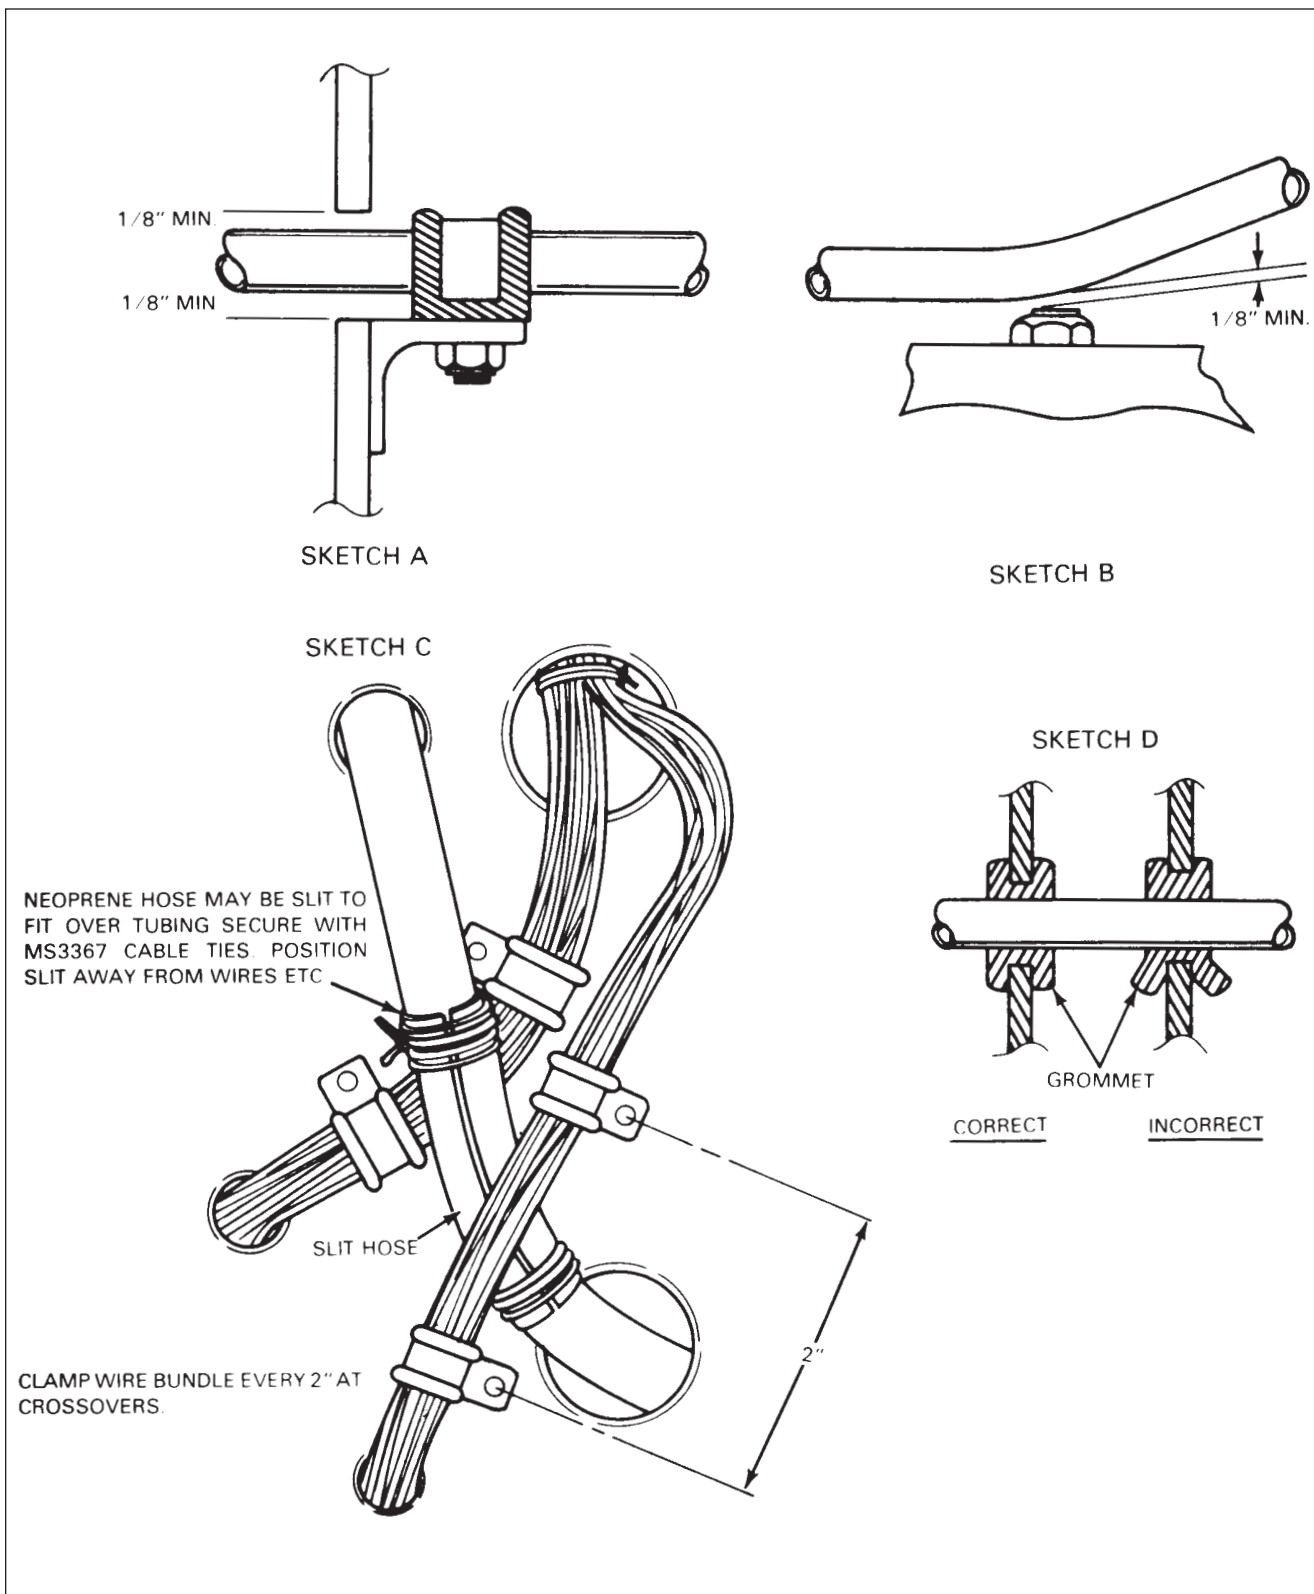

Figure 35-4. Oxygen Tubing Installations
9. Make sure to check the oxygen lines for proper clearance as follows: (Refer to Figure 35-4.)
- (1) When the six inch requirement cannot be complied with, one inch is allowed as long as electrical cables and other lines are supported at least every two inches; and, the oxygen tube(s) is protected by rubber neoprene hose fastened in place with cable ties at the location the specific item crosses or is near the oxygen tube(s). If an item is near the oxygen tube for a certain distance the oxygen tube for that distance must be covered.
- D. A minimum of 1/8 inch between tubing and structure adjoining the supporting clamp, as shown in Figure 35-4, Sketch A.
- E. Where a tube passes through a grommet, the tube must not bear on the grommet in any way that might cause cutting of the grommet in service as shown in Figure 35-4, Sketch D.
- F. While in service, items may receive vibrations causing them to come in contact with other parts of the aircraft. With this in mind, low pressure tubing that is supported well enough to prevent relative motion must have at least a minimum clearance of 1/8 inch from a projection (bolt, nut, etc.). Low pressure tubing that cannot be supported well enough to prevent motion must have a minimum clearance of 1/8 inch allowed after the maximum travel of the tube. High pressure lines are affected similarly but require 1/2 inch minimum clearances. Refer to Figure 35-4, Sketch B.